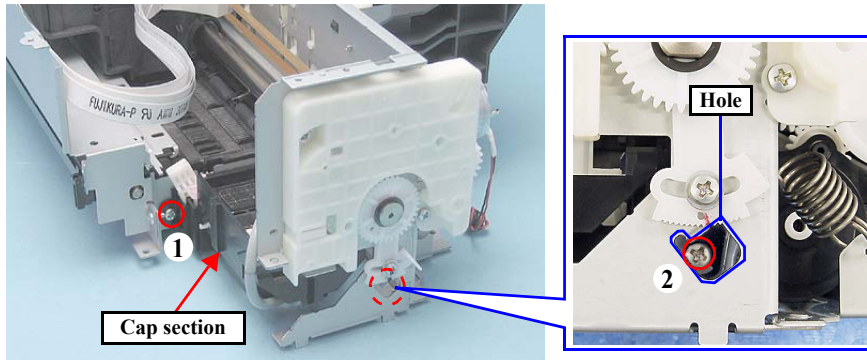

Figure 4-116. Removing the Ink System (1)
- Tighten the screws in the order given in Fig.4-116.